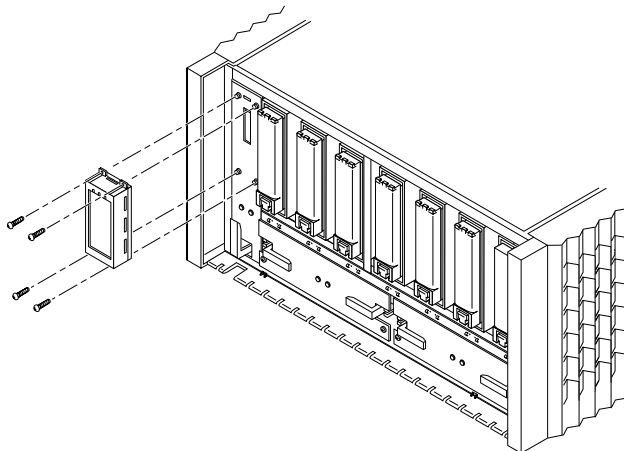

FIGURE 7-10 Removing the FPM
2. Remove the four screws that secure the FPM to the fan tray (FIGURE 7-10).